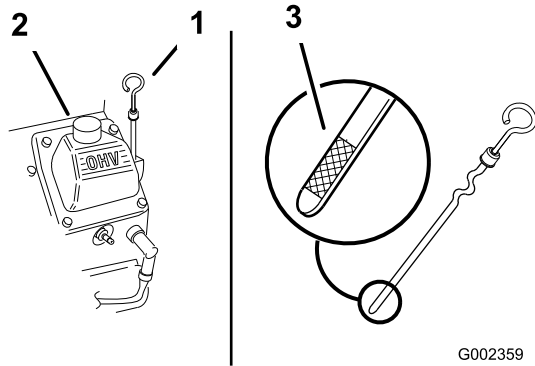

Figure 47
4. Clean around the oil dipstick (Figure 47) so that dirt cannot fall into the filler hole and damage the engine.
5. Remove the oil dipstick and wipe the end clean (Figure 47).
6. Slide the oil dipstick fully into the filler tube (Figure 47).
7. Slowly pour approximately 80% of the specified oil into the filler tube (Figure 47).